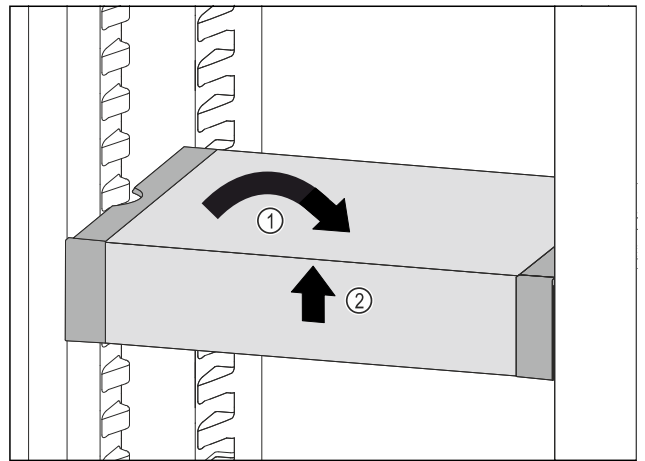

Fig. 82
- ▶ Set VarioSafe straight. *Fig. 82 (1)*
- ▶ Lift VarioSafe at the front. *Fig. 82 (2)*